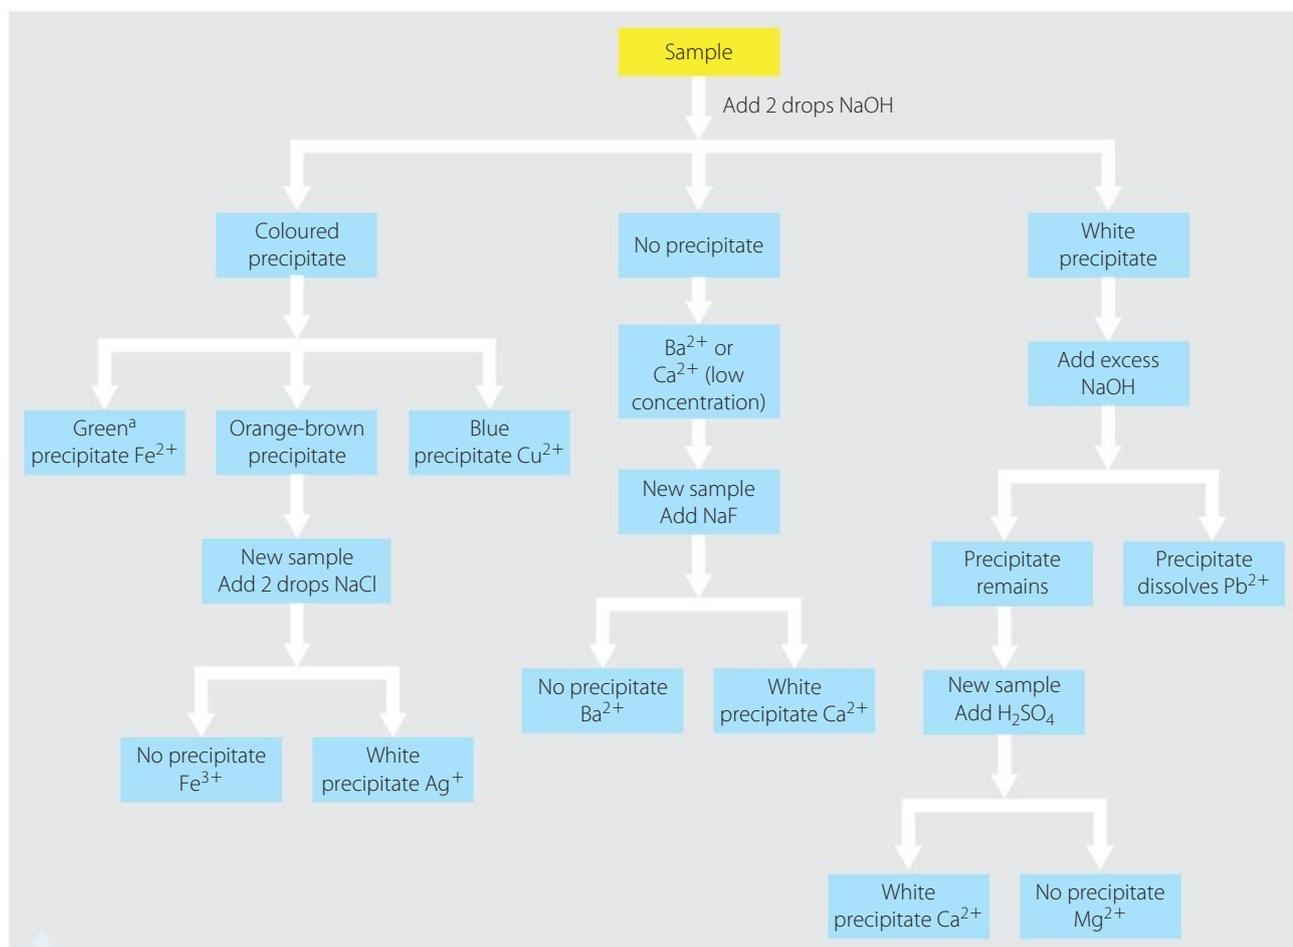

FIGURE 14.6 Flow chart for identifying the cation in a single cation sample solution
Figure 14.6 on page 414 gives one procedure for identifying the presence of the cation in a solution that contains only one cation.
- ▶ In Figure 14.6, Ca²⁺ is considered twice, depending whether it is present in high or low concentrations due to the sparingly soluble nature of the salts produced. If it is present in high concentration, a white precipitate will form on addition of NaOH, while if only low concentrations are present, no precipitate will form. The presence of Ca²⁺ can also be confirmed using a flame test.
When the procedure in Figure 14.6 is followed the specific cation, of the eight being considered, is able to be identified. You can try this in Investigation 14.2. The presence of this specific cation could then be checked using either a flame test or an alternative precipitation reaction listed in Table 14.3a and 14.3 b.
- 3 Redraw Figure 14.6 to include the results of additional tests.